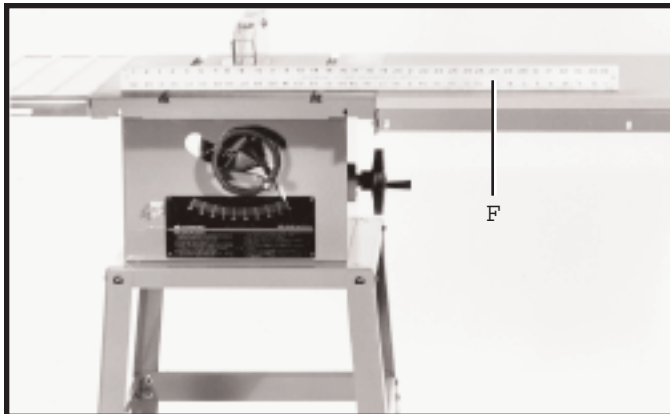
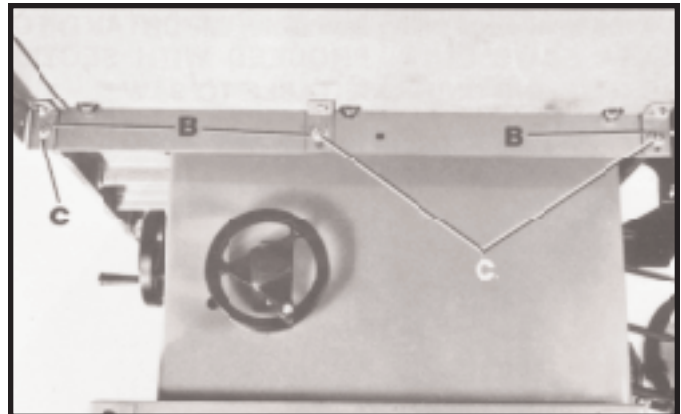

Fig. 13
Fig. 14
3. Using a straight edge (F) Fig. 13, make certain the Unifence table surface is level with the saw table by adjusting two leveling screws on bottom of table legs and adjusting brackets (B) Fig. 14. Then tighten three nuts (C) Fig. 14. IMPORTANT: Front edge of Unifence table must be flush with or slightly behind front edge of saw table.